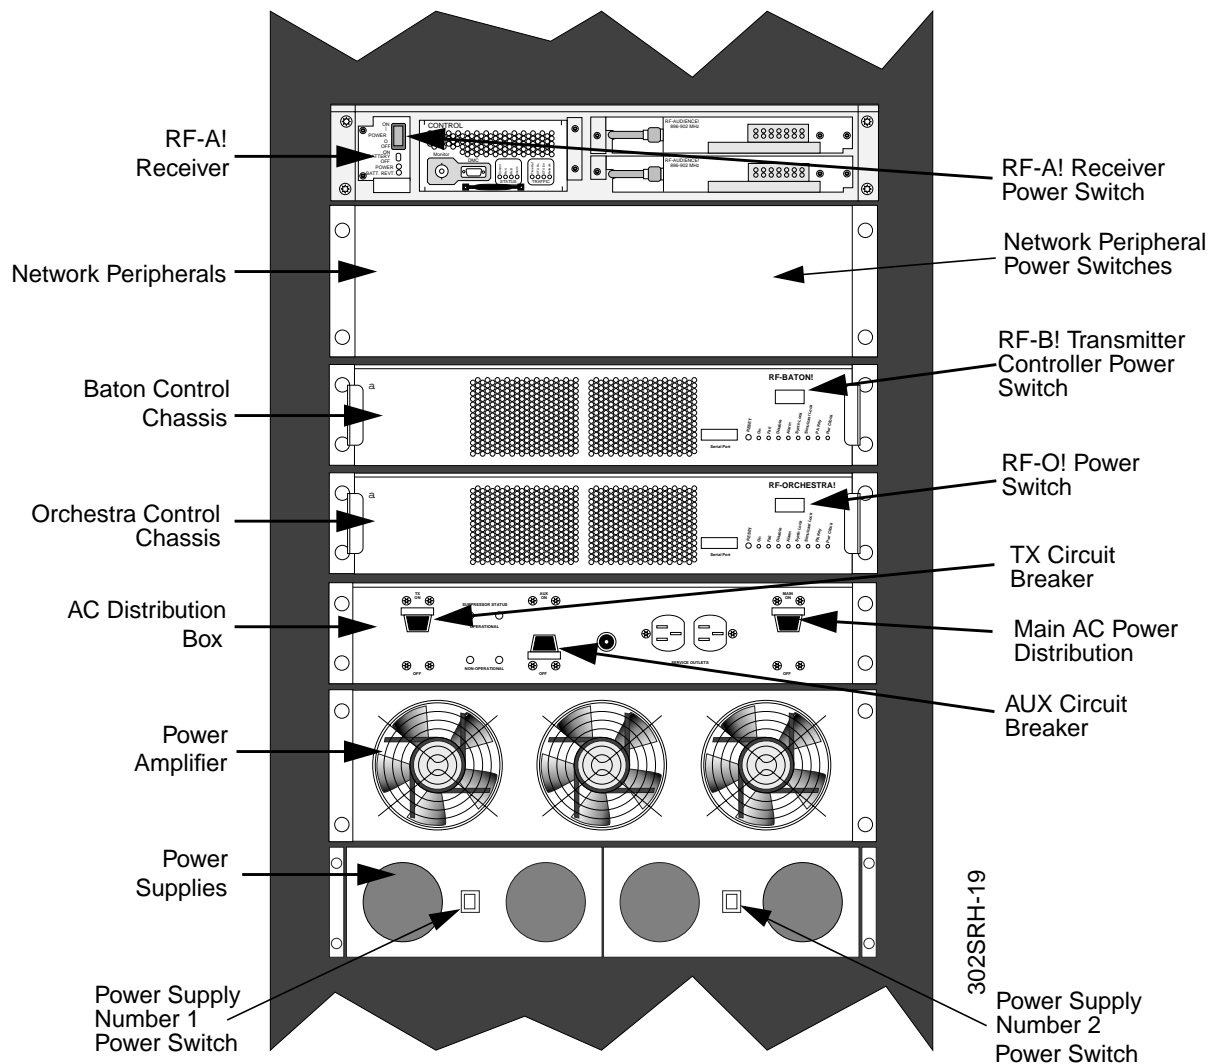

Figure 4-4: RF-O! Paging Station Power Switches
1. Place the main AC power distribution unit circuit breaker in the ON position (see Figure 4-4).